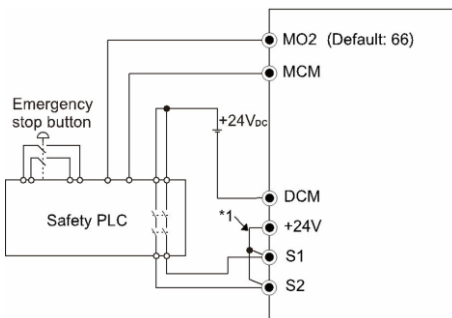

Fig. 10: Safe Torque Off Wiring
1. The factory default is +24 Vdc/S1/S2 short-circuited by jumper, as shown in Area 1 in Figure 25: Control Terminal Diagram [→ 20]. See Figure 10: Climatix VFD Detailed Wiring Diagram [→ 9] for details.